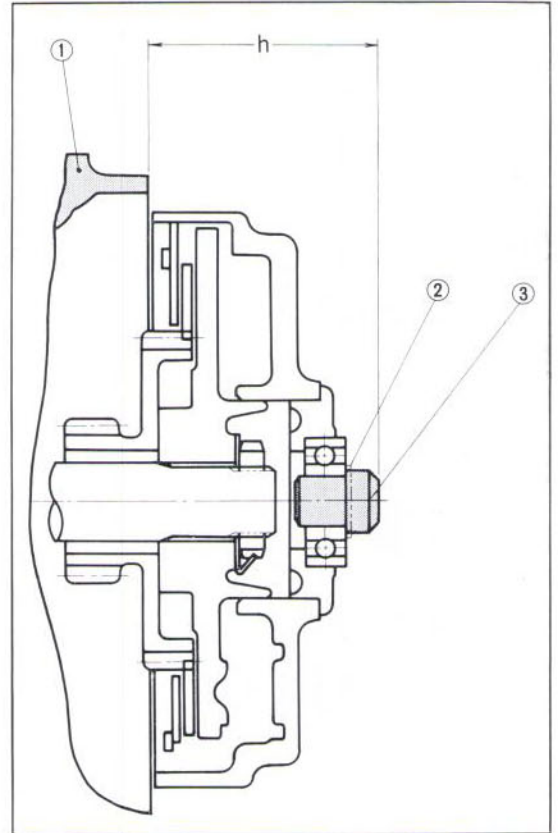

Fig. 2.41 ① R. crank case ③ Clutch outer cover pin
Whenever the clutch disengagement is poor or if the height "h" between the cover flange of the right crankcase ① and the end of the clutch outer cover pin ③ is less than **44.2 mm (1.74 in)**, install a 10 mm washer ② (Part No. 90466-064-000) between the bearing and the clutch outer cover pin as shown in Fig. 2.41.